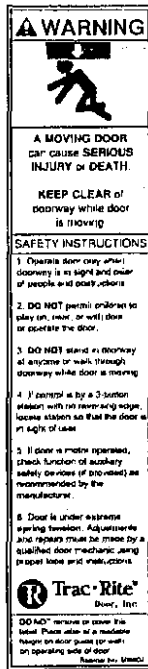

Figure 13.
9.3 Attach guide warning label (shown in Figure 13) to wall next to the guide at eye level. If mounting to an unfinished surface (bare masonry or wood) attach label to a nonporous surface and use mechanical fasteners to mount on wall.